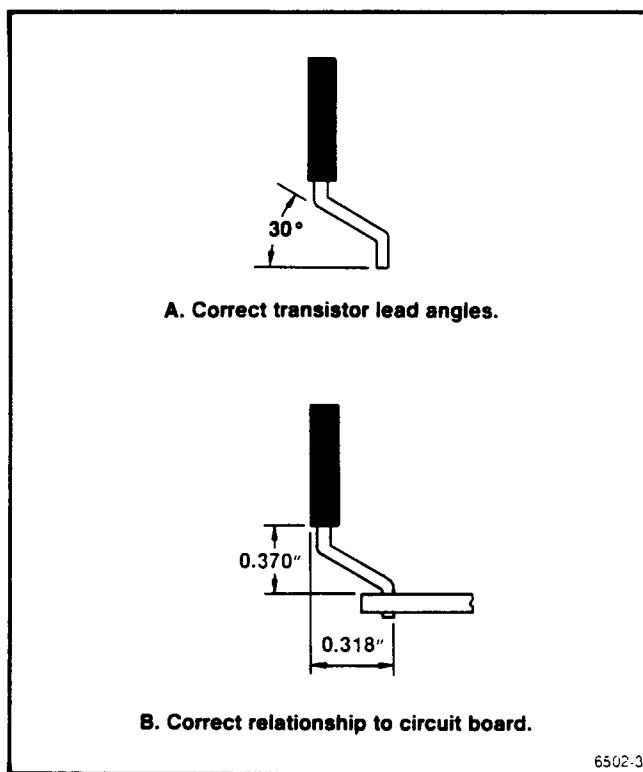

Fig. 3-1. Series pass transistor replacement. (Shown actual size.)
- b. Carefully bend the new transistor leads according to the dimensions in Fig. 3-1. The illustration is drawn actual size so that you can physically compare the lead angles with the drawing.